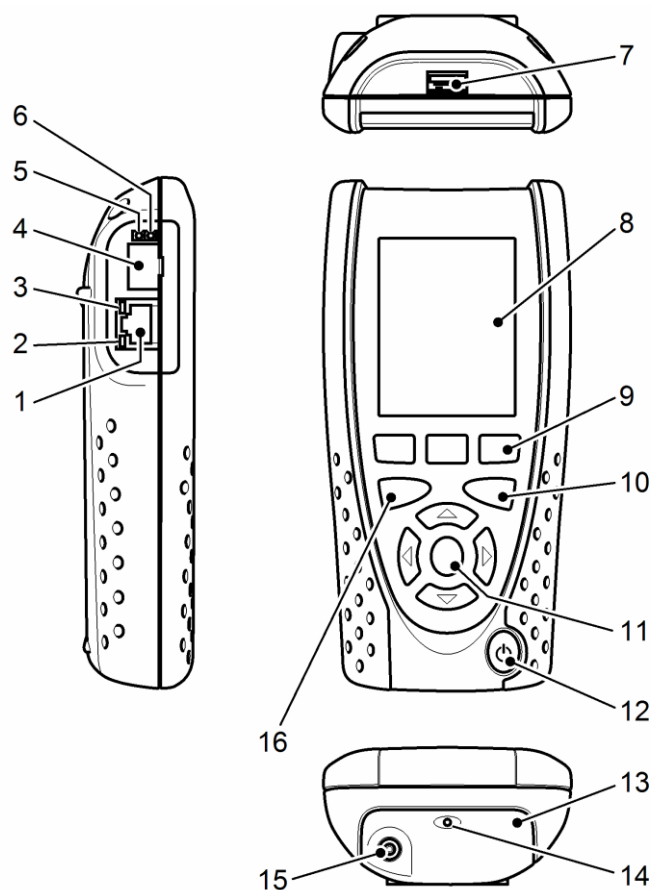

Fig 3
¹ Fig 3 items 4, 5 & 6 – NaviTEK II PRO only.
² Fig 3 item 13 shows optional power module.